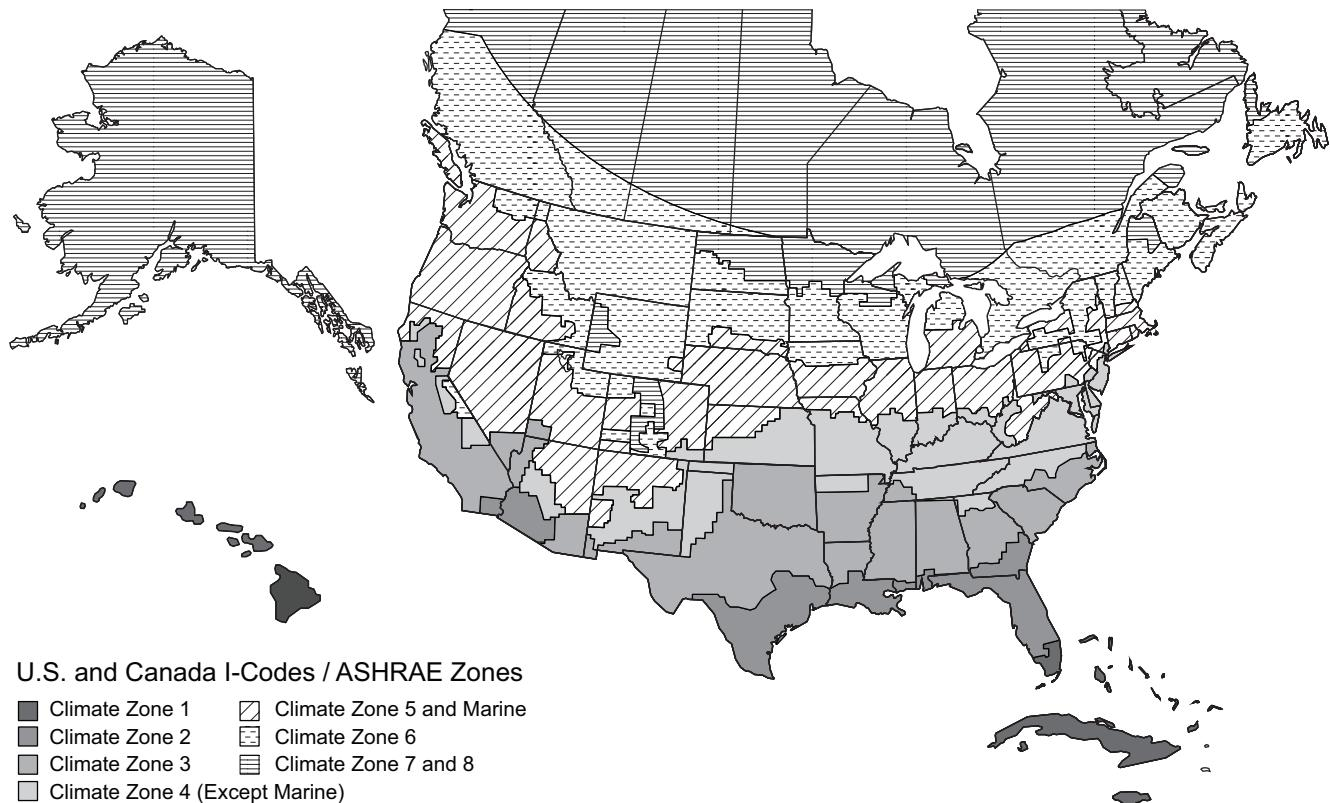

Fig. 73 — U.S. and Canada Climate Zones
- See Fig. 73 for map of U.S. and Canada climate zones.